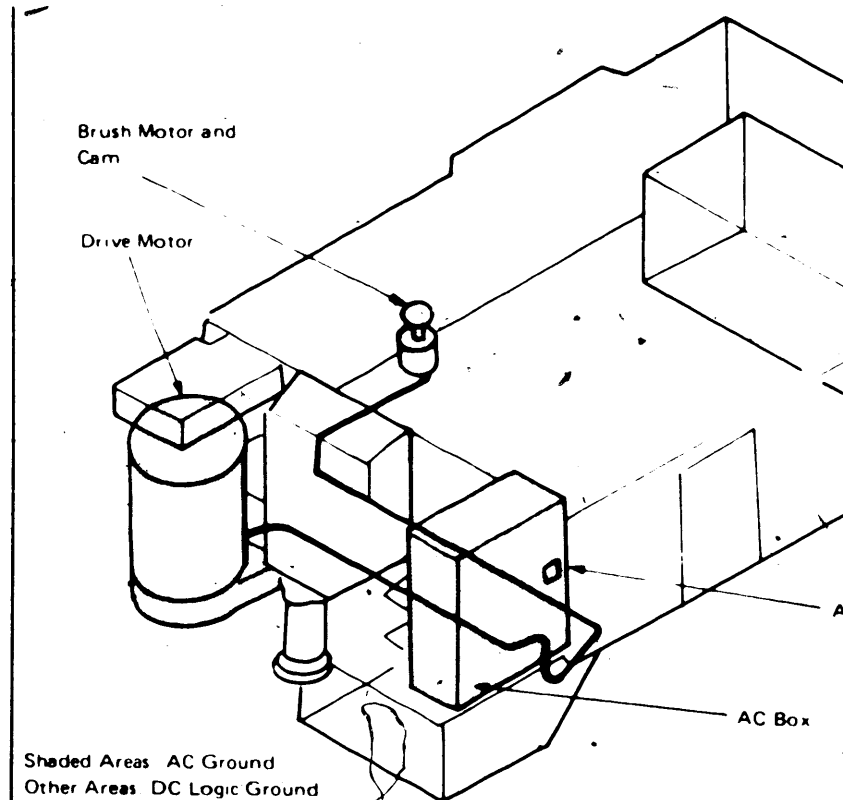

Figure 2-46. AC Grounded Areas [08432]
The majority of the 5444 is dc grounded (Figure 2-46) and the enclosure of the using system is usually ac grounded.
2. AC ground, which is common to the exterior frame of the enclosing system (see Figure 2-46).